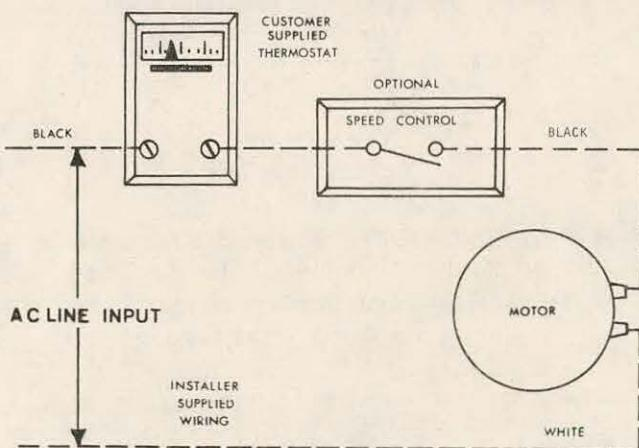

FIGURE 14 - Wiring Diagram of Speed Control Installation
The solid state speed controller may be installed at any convenient location and is suitable for surface or flush type mounting. A standard electrical single or double gang wall box is recommended as in Figure 14.
1. Attach the control's leads to the electrical leads in the control box using wire nuts. The speed control is to be wired in series with the motor. See wiring diagram in Figure 14.